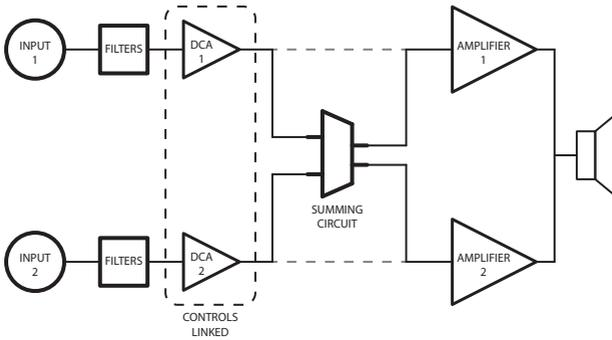

Figure 1.06 (Bridged Mode (both low and high impedance variants))
5. Low Impedance Bridge Mode (Figure 1.06) is used when bridging the amplifier for low impedance loads (i.e. $<8\ \Omega$, non 70V loads). In this mode the amplifier performs a soft-reboot, mixes both input channels together, then channel gains are 'ganged'. Ganged channel gains means that either rotary encoder will affect both channels, and the ratio between each channel's gain remains the same. For example, if you set Channel 2 to maximum, and Channel 1 to 50% level then enable Low Impedance Bridge Mode – both channel gain settings will remain the same level apart no matter which rotary encoder is operated. Remember to set individual levels prior to enabling this mode.
6. High Impedance Bridged Mode (Figure 1.06) is used for high impedance loads (i.e. $8\ \Omega$ - 70V loads). In this configuration, the channel gains are 'ganged' as they are in Low Impedance Bridge Mode, and operate in the same way. Both input channels are also mixed together. This mode also allows for 70V operation.